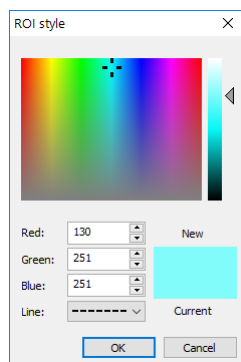

Figure 395 – ROIs style dialog
3. Select the desired color and line style in the dialog (see Figure 395).